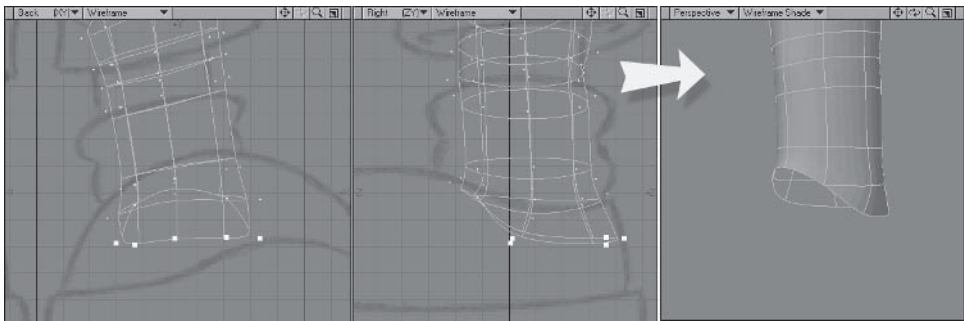

Figure 5.4-49. Extending the heel.
3. Deselect the front point and **Extend** again. Deselect the front two points and **Move** down and adjust to match Figure 5.4-49. **Deselect All** and **Merge Points** to merge the front two points.